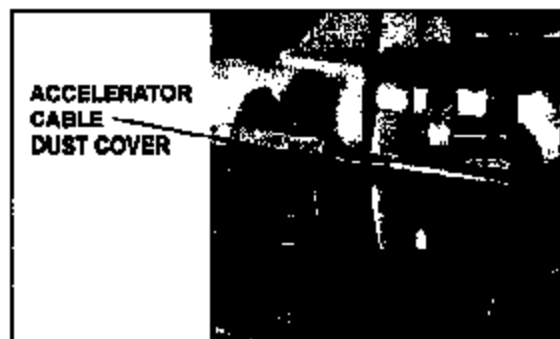

Figure 1
1. Using a suitable tool, remove the accelerator cable dust cover from the accelerator cable housing (see figure 1). **NOTE: Do not damage the inner cable when removing the dust cover.**